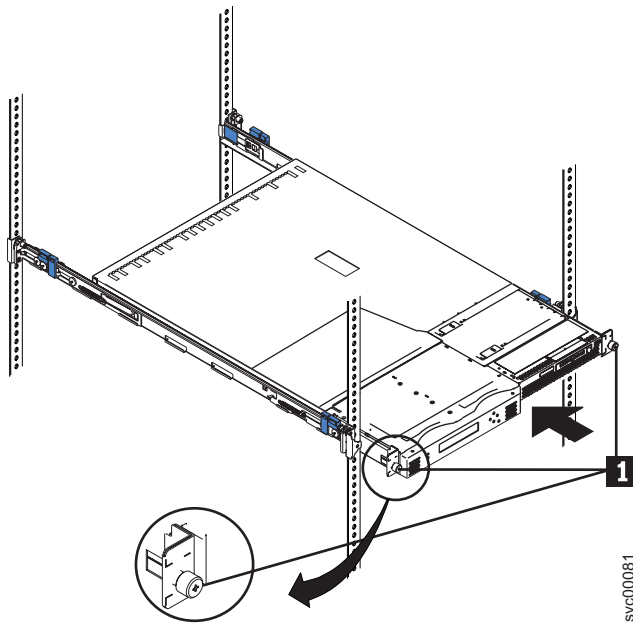

Figure 45. Sliding the SAN Volume Controller 2145-8F4 into the rack
2. Latch the two latches on the front of the rack to attach the node to the rack. (**1** in Figure 45 on page 66).
Note: The front of the rail assembly looks different from the front, as you can see in Figure 45 on page 66.